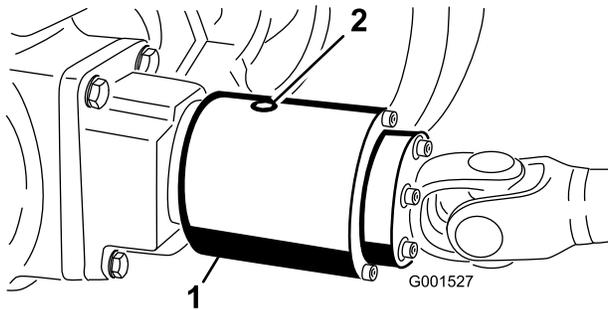

Figure 55
3. Rotate the clutch so that the check plug is positioned downward (Figure 55).